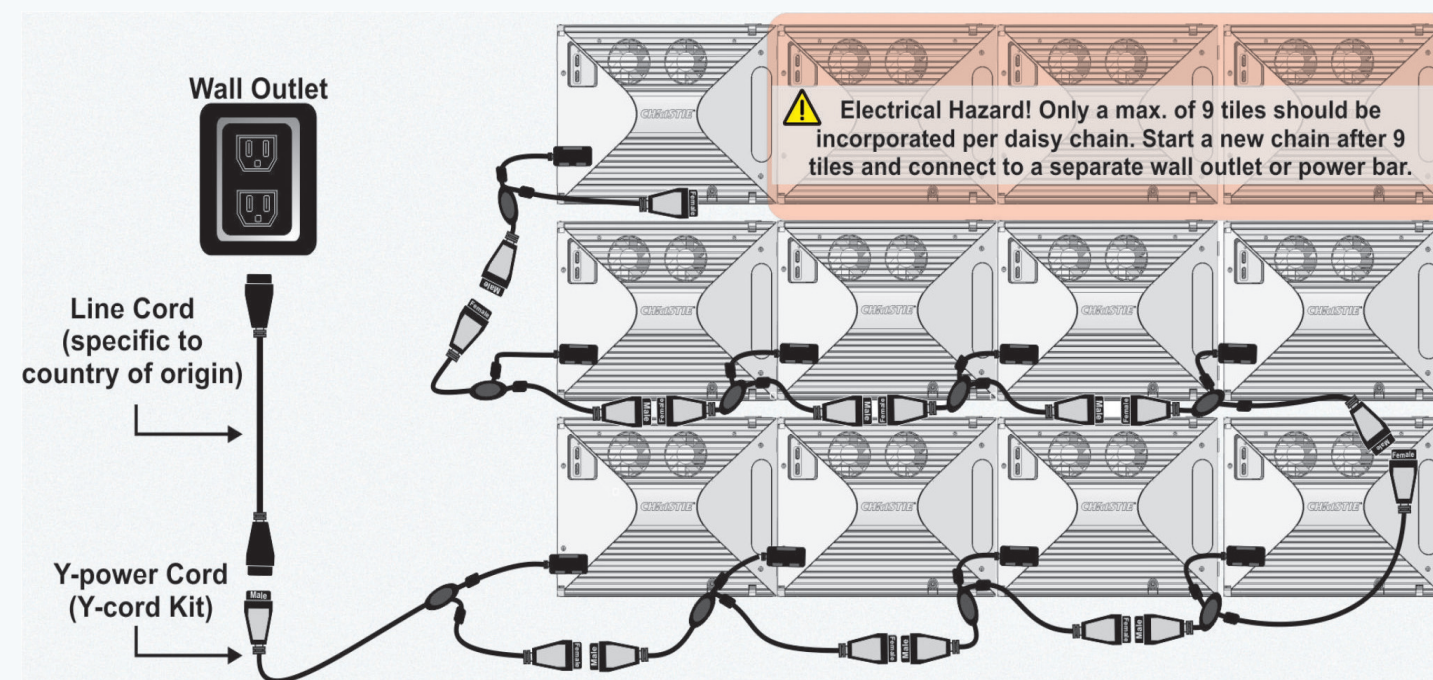

Figure 6 Power Distribution
- Continue to add the remaining tiles to the second row. Insert a horizontal adjustment screw into the mounting points between the first 2 tiles (Figure 6). Use a 5mm hex key to tighten the screw. DO NOT completely tighten until the entire row is complete to allow for adjustments. **NOTICE:** Horizontal adjustment screws are not mandatory, but are recommended in order to achieve optimal horizontal alignment.
- Daisy chain the Y-power cords into each tile in the array and connect the standard power plug into an outlet or power bar (Figure 6).